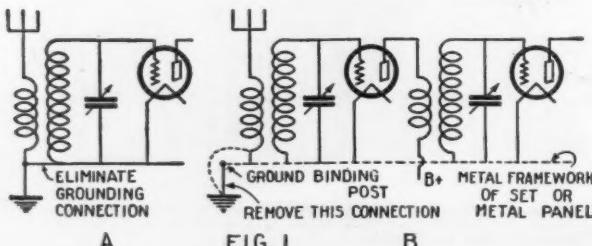

FIG. 1
Fig. 1. (A) The ground connection may be removed, which will sometimes improve the selectivity. (B) Where the grounding connection is made through the framework of the receiver, or through a metal panel, the ground end of the primary is unsoldered and connected to the ground directly and the panel is not grounded.
The first of these requires getting into the receiver itself and making a small change in the wiring. Many R.F. amplifiers have the filament circuits grounded; that is, connected to the ground connection, either by a wire soldered in place, or by terminating the grid-returns at the tuning condensers, whose rotors are grounded to a metal panel, or otherwise. These connections are shown in Fig. 1. In Fig. 1A we have the ordinary grounding connection, in which the filament end, or the grid-return end, of the secondary coil is connected to the ground by means of a wire.
But when you try this stunt, you must first look at your "B" socket unit if you are using one. Some of these instruments require grounding, and when so connected you may have the filament circuit of your receiver grounded through the eliminator. If this is the case, the changes indicated in Fig. 1 will be of no use, so that you will have to discard this method and choose another.